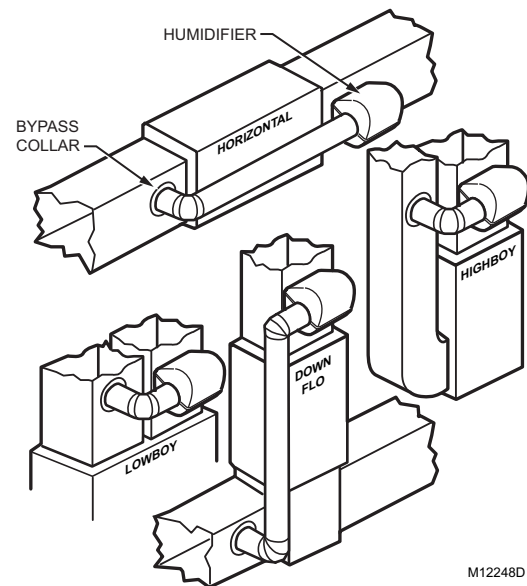

Fig. 1. Typical humidifier installation locations
1. Determine the best location for the humidifier and draw a level line on the plenum. See Fig. 1.